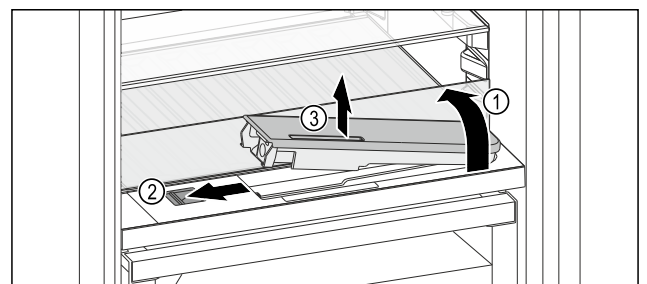

Fig. 118
- ▶ Lift the glass panel and fold towards the rear until it clicks into place *Fig. 118 (1)*.
- ▶ Slide the slider *Fig. 118 (2)* to the left.
- ▶ Remove the water tank *Fig. 118 (3)*.